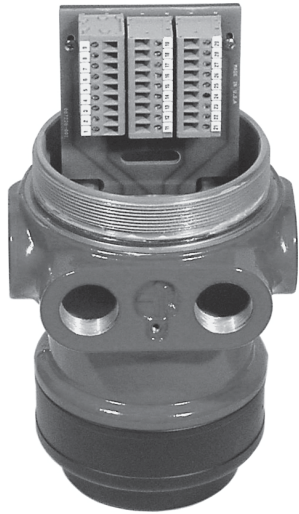

Figure 4—X98AF Terminal Block
1. Make field connections following local ordinances and guidelines in this manual. Refer to Figures 4 through 12.